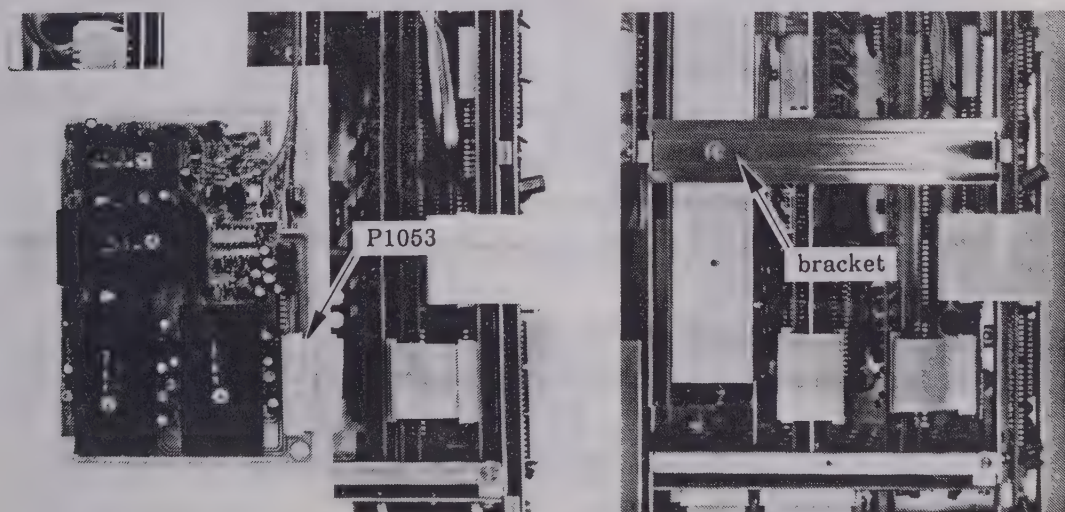
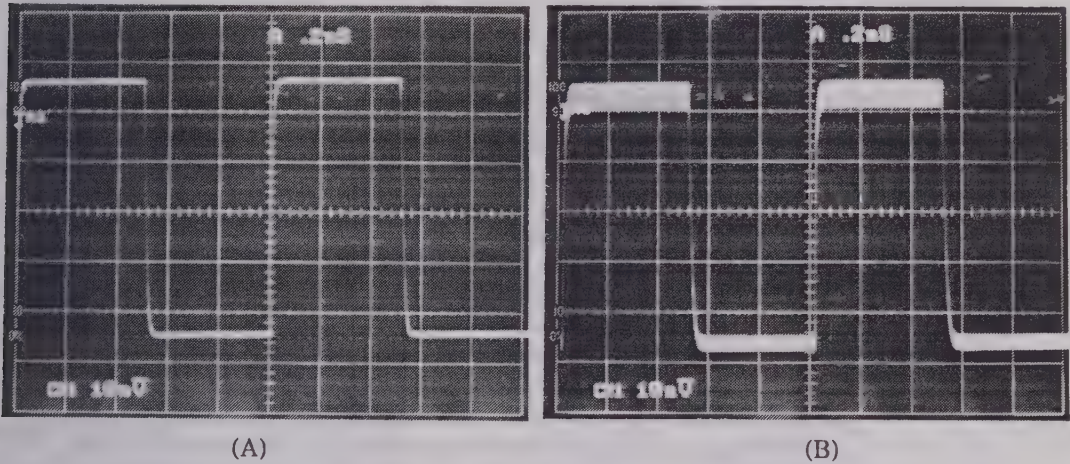

Fig. 4-41 Positions of BRACKET and CONNECTOR (P1053)
Fig. 4-43 Waveform when adjusting envelope gain
- (1) Turn off the power switch, and remove the bracket shown in Fig. 4-41.
- (2) Slacken the outer frame of connector P1053, and remove the flat cable.
- (3) Remove board A15 from the chassis, and place it on the unit with an insulating sheet beneath it.
- (4) Insert the end of the flat cable into connector P1053.
- (5) Perform initial setting of the instrument in accordance with Table 4-3.
- (6) Apply a  $50\text{mVp-p}$  standard amplitude generator output to the CH1 input.
- (7) Set "TIME/DIVE" to  $0.2\text{ns}/\text{DIV}$ , and set "STORAGE/REAL" to "STORAGE".
- (8) Set "ENV" (envelope) to "ON".
- (9) Confirm that a clean sine wave appears on the CRT screen, as shown in Fig. 4-43 (A). If the waveform contains a noise component as shown in Fig. 4-43 (B) adjust CH1 BOTTOM GAIN (RV6) and also CH1 PEAK GAIN (RV5) on board A15 shown in Fig. 4-44.
- (10) Set "TIME/DIV" TO CH2 ONLY, and connect the signal output to CH2.
- (11) Like CH1, confirm that the waveform on the CRT screen is clean as shown in Fig. 4-43 (A).
If the waveform contains noise as shown in Fig. 4-43(B), adjust CH2 BOTTOM GAIN (RV4) and CH2 PEAK GAIN (RV3) on board A15 shown in Fig. 4-44 so that the amplitude of the waveform is  $5\text{ DIV} \pm 0.1\text{ DIV}$